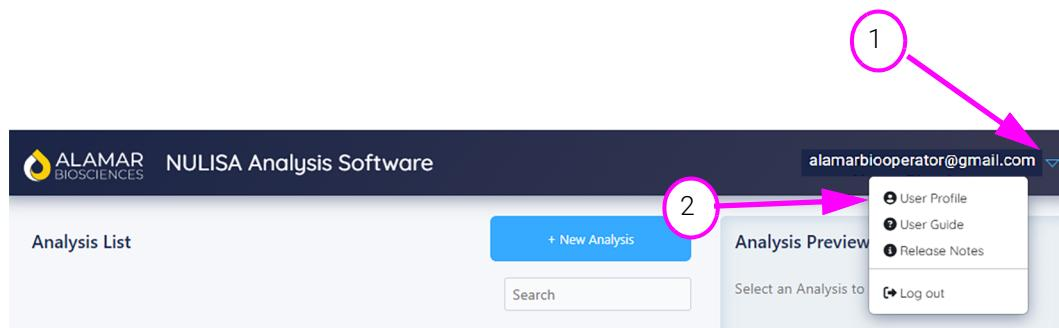

Figure 7-4. NAS User Settings Drop-Down Menu – Operator
2. Select **User Profile** from the drop-down menu. Your account settings are displayed in a new window (see Figure 7-4). The left side of the window shows the various account settings that you can modify. Select each setting that you wish to change from this list.
1. To change your profile (name), select **Profile** from the account settings. See Figure 7-4.